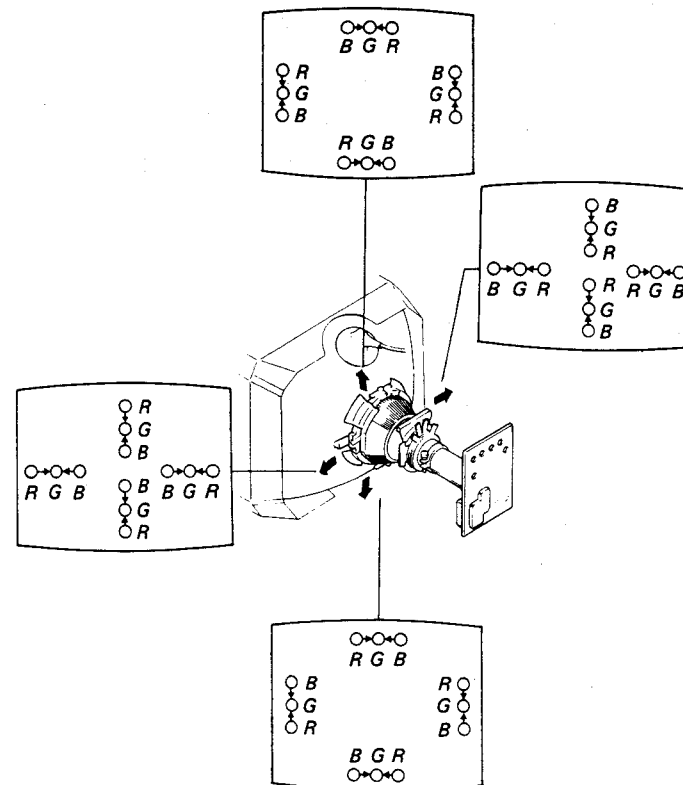

Fig. 3-9
2. Adjust the cross tilt misconvergence at the H and V axis ends in the picture to the best condition by oscillating the deflection yoke. (See Fig. 3-9.)